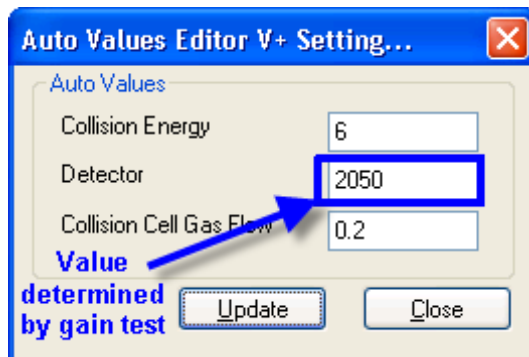

Figure 20 - Auto values dialog box
17. Click **System > Auto Values** to open the Auto Values dialog box (Figure 20).